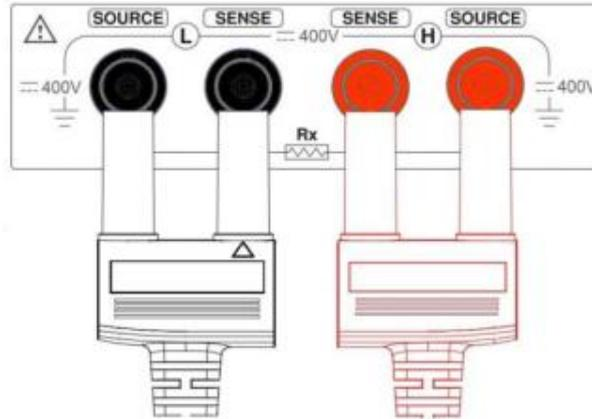

Figure 3-2-2 Schematic Diagram of the Connection between the Test Lead and the Terminal Hole of the Instrument (Take the UT3563 Panel as an Example)
3. Connect the test leads of the four terminals to the input terminals of the instrument according to the method shown in Figure 3-2-2. The specific operations are as follows: